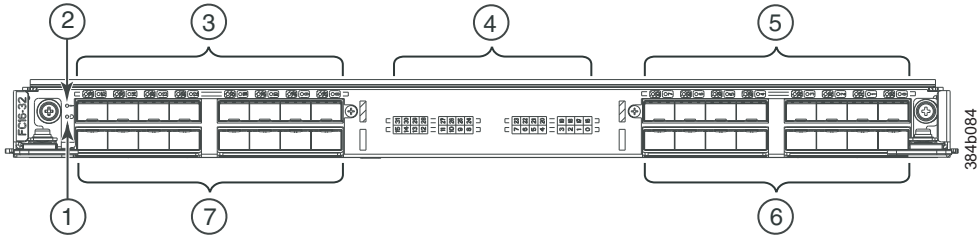

Figure 54. FC16-32 port blade
- Figure 54 on page 152 shows an FC16-32 port blade